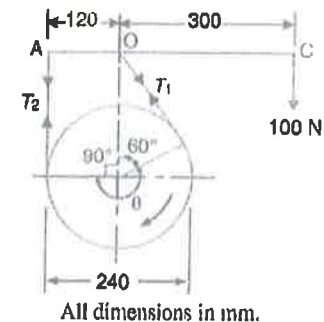

Figure 3
- (c) The simple band brake, as shown in Figure 3, is applied to a shaft carrying a flywheel of mass 400 kg. The radius of gyration of the flywheel is 450 mm and runs at 300 r.p.m. If the coefficient of friction is 0.2 and the brake drum diameter is 240 mm, find : (i) the torque applied due to a hand load of 100 N, (ii) the number of turns of the wheel before it is brought to rest, and (iii) the time required to bring it to rest, from the moment of the application of the brake. 14